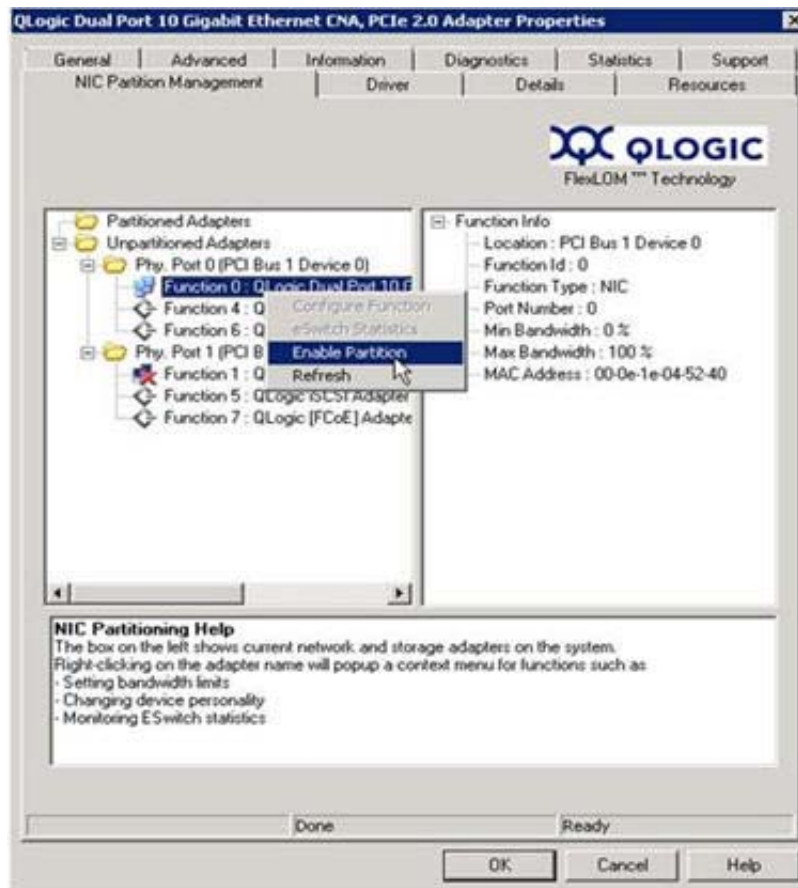

Figure 42: Enabling Partition
c. Select **Enable Partition** (Figure 42).